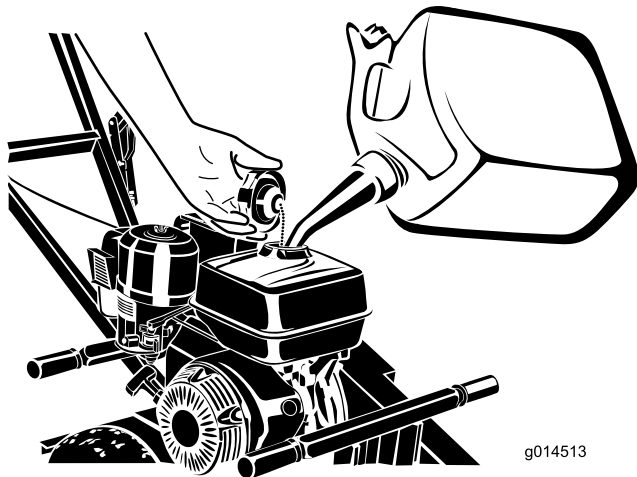

Figure 9
3. Clean around the fuel tank cap and remove it (Figure 9).